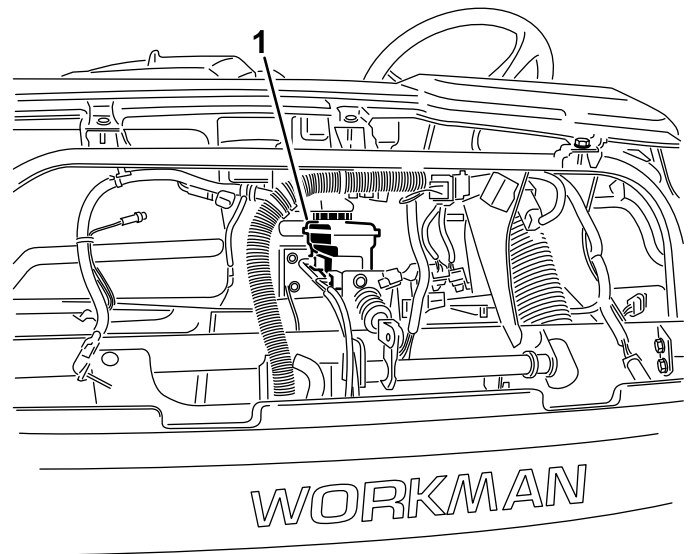

Figure 25
**Note:** You can remove the hood access to the reservoir from the front of the machine (Figure 25).